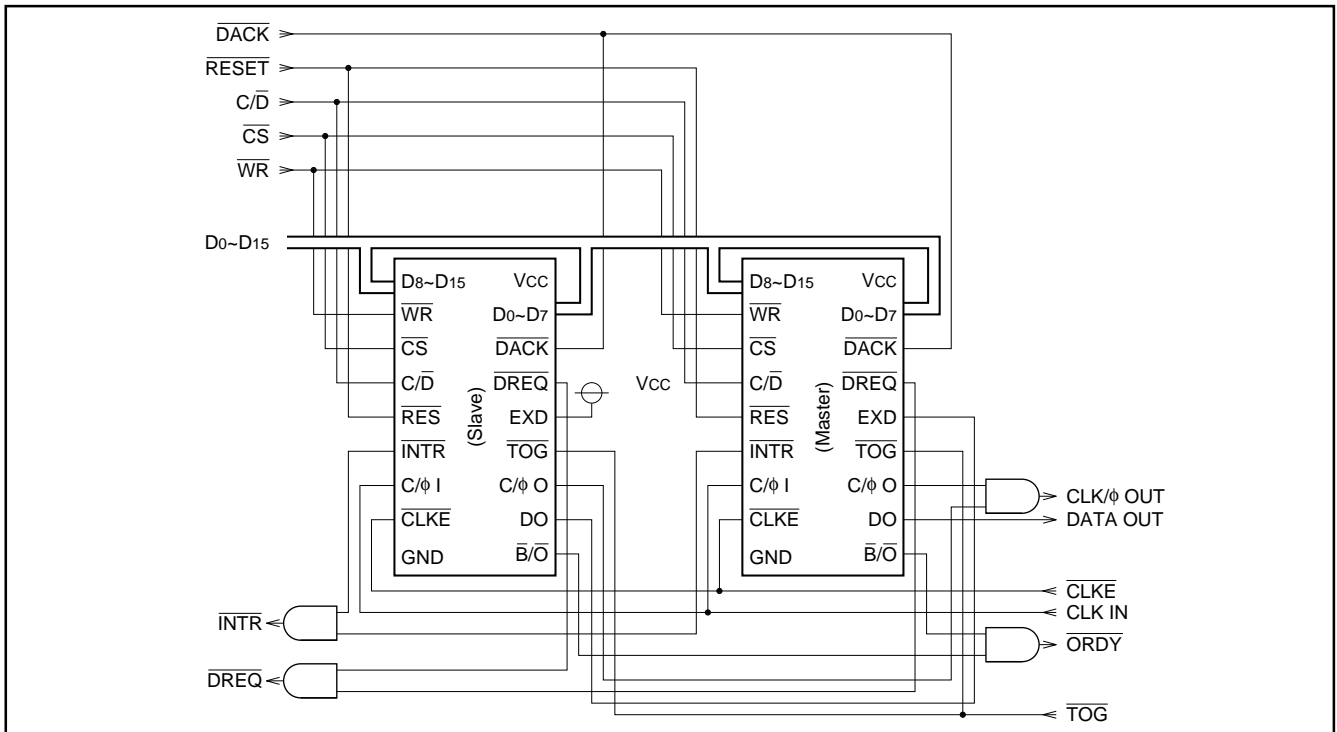

Fig. 12 Wiring diagram of toggle configuration
- (i) Toggle operation is feasible when the circuit is connected as shown in Fig. 12.